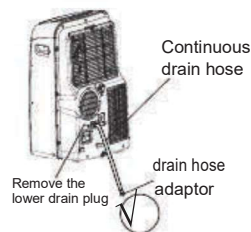

Fig.20b
- During heating pump mode, remove the lower drain plug from the back of the unit, install the drain connector(5/8-universal female mender) with 3/4 hose(locally purchased). For the models without drain connector, just attach the drain hose to the hole. Place the open end of the hose adaptor directly over the drain area in your basement floor. Please refer to Fig.20b.